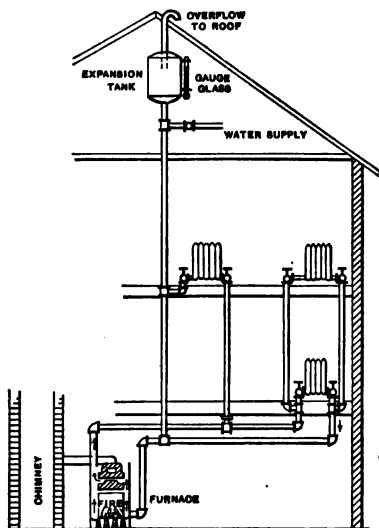

FIG. 2. — Hot-water system.
*The hot-water system.* In the hot-water system the water is heated in the basement by the furnace and is then conducted through pipes to radiators situated in the various rooms. (See figure 2.) In the attic is placed a tank connected with this set of pipes. The hot water passes to this tank and to the radiators, and then back to the furnace, where it is reheated.